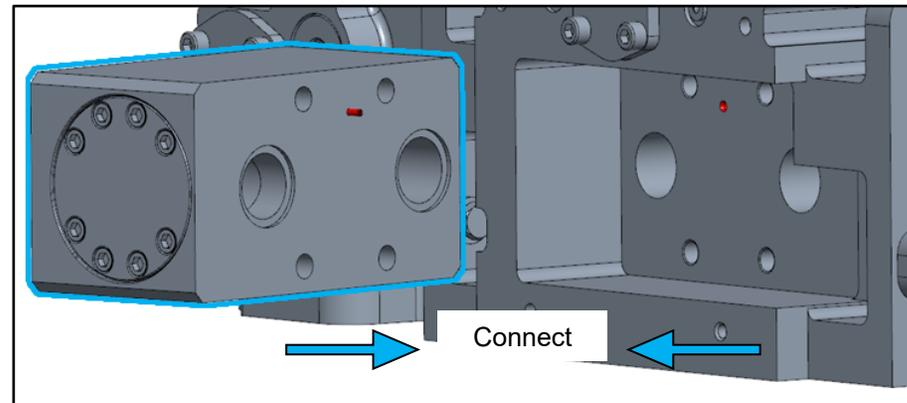

Figure 4-10. Shuttle Valve Installation
4. Align the shuttle valve with the VS-DX manifold using a dowel pin and connect. (Figure 4-10).